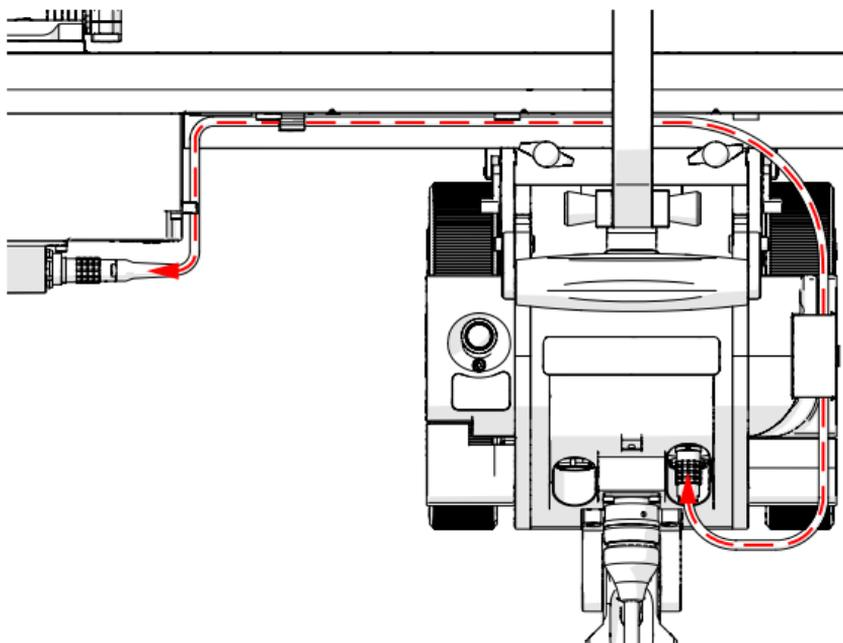

Fig. 53 - Raster arm cable routing
5. The opposite end of the raster arm cable is connected to the 8-pin port of the crawler (*Fig. 53*).